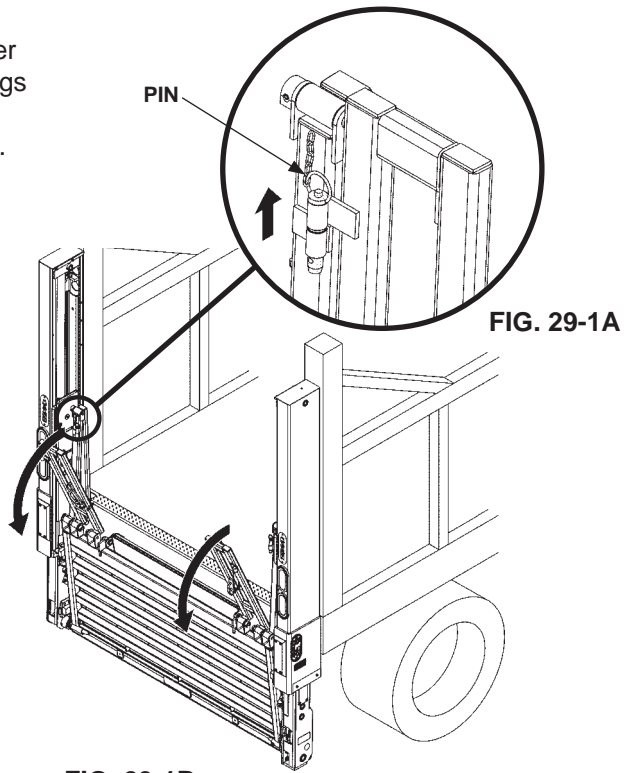

FIG. 29-1B
2. Remove pin (**FIG. 29-1A**) on each side of platform to unlock platform railing. Lower the railing until it hangs over the platform as shown in **FIG. 29-1B**.